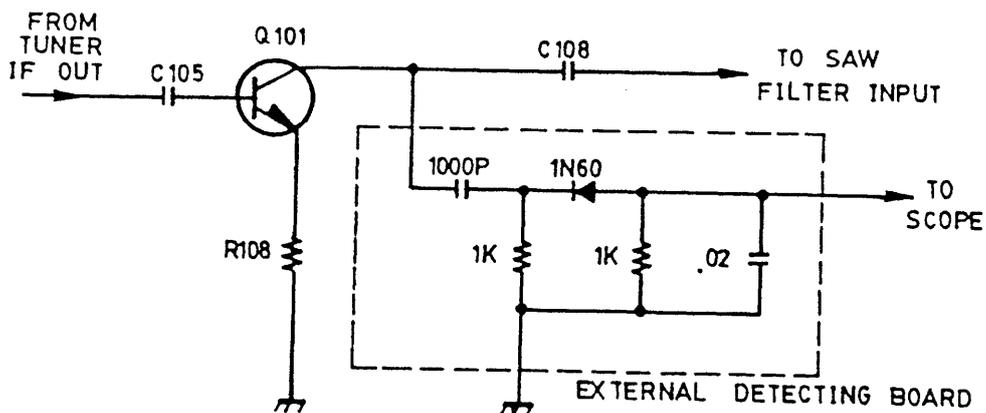

Fig. 7
2. Connector the external detecting circuit between the syncoscilloscope input and TP 101 (Q101 – Collector). (See Fig. 7.).
2. Connect the external detecting circuit between the sync oscilloscope input and TP 101 (Q101 – Collector). (See Fig. 7.).